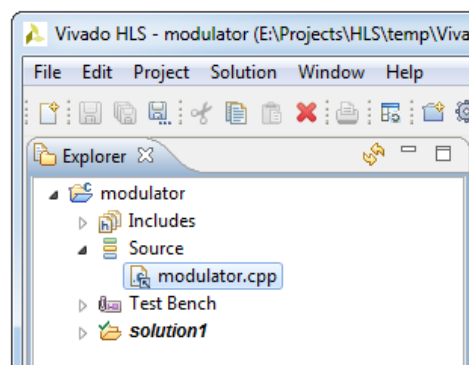

Figure 2.14: Source folder with modulator.cpp file
1. In the Vivado HLS **Explorer** pane expand Source folder and double-click on the **modulator.cpp** C++ file to open it, see Figure 2.14.